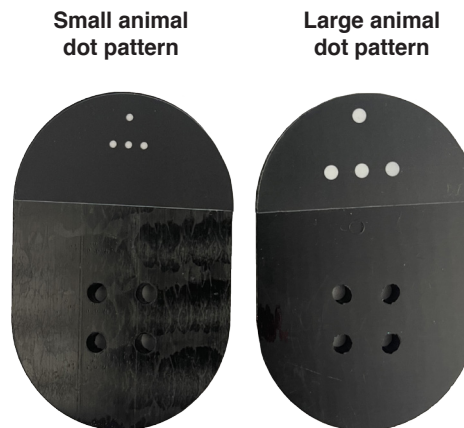

Fig. 3-13
1. Identify the dot pattern (see Fig. 3-13).